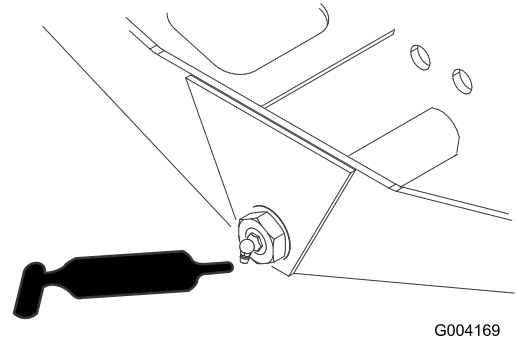

Figure 57
- Axle steering pivot (1) (Figure 57)